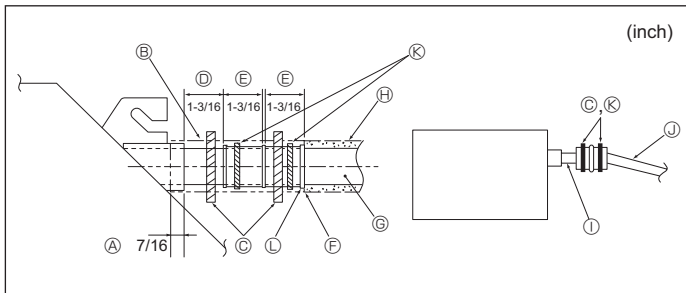

Fig. 5-6
- ① O. D. $\phi 38$ mm, 1-1/2 inch PVC TUBE for grouped piping. (9 mm, 3/8 inch or more insulation)
1. Connect the drain socket (supplied with the unit) to the drain port. (Fig. 5-6) (Affix the tube using PVC adhesive then secure it with a band.)